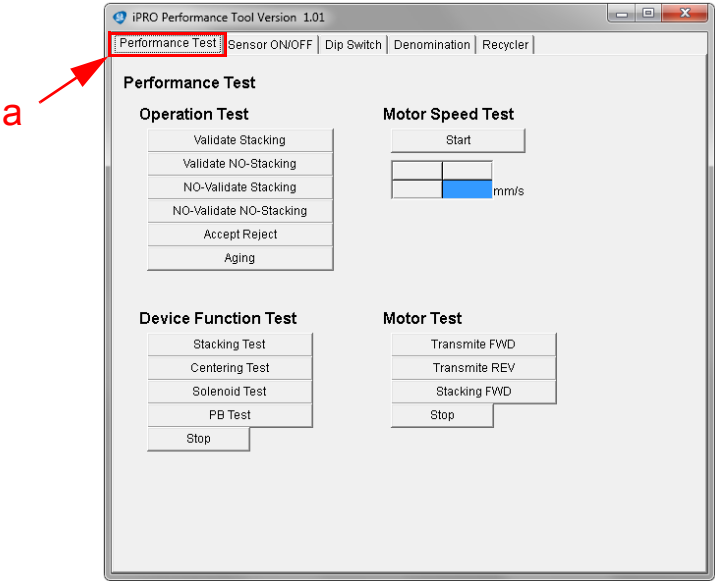

Figure 9 Performance Test Screen
6. Click on the “Service Mode” drop-down menu, and select the “Performance Test” menu option (Figure 9 a).
NOTE: The iPRO Performance Tool Version x.xx screen (Figure 9) appears. (Product version number may vary.)